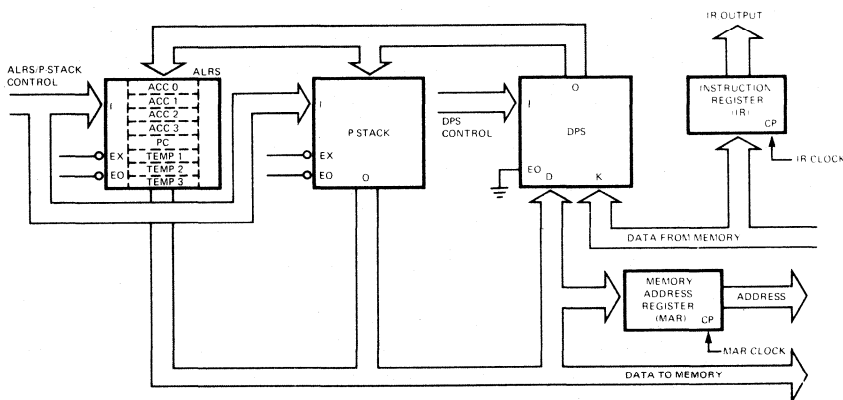

Fig. 15. Data Path for the Processor
A data path suitable for this processor is shown in *Figure 15*. It consists of a 16-bit ALRS array, 16-bit P-Stack array and 16-bit DPS array. The ALRS and DPS can perform all the arithmetic logic operations needed. The P-Stack provides the required 16-level stack function. The ALRS has eight built-in accumulators but only four are needed for this processor. The P-Stack has the necessary features to implement the PC. However, if this feature is used, only 15 levels of nesting remain. This processor requires 16. Because the ALRS has four spare accumulators, one of these can be used as the PC, thus leaving three spares. Thus the PC feature of the P-Stack is not needed and therefore the address outputs are not used. The storage in the ALRS is allocated as follows: R₀ = AC₀, R₁ = AC₁, R₂ = AC₂, R₃ = AC₃, R₄ = PC, R₅ = TEMP 1, R₆ = TEMP 2 and R₇ = TEMP 3. An edge-triggered memory address register (MAR) on the output bus is provided. Data from the memory is introduced into the data path using one of the input ports of the DPS array. Data to the memory is obtained directly from the output bus. An edge-triggered instruction register (IR) is also provided to hold the OP code bits and index bits of the macroinstruction.